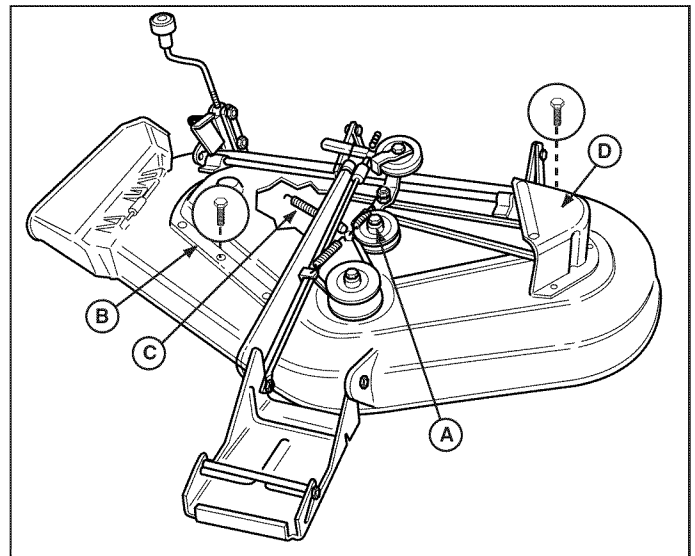

Figure 42. Mower Deck - 44" Mowers
4. See Figure 42. Remove three capscrews securing left-hand arbor cover (D).
7. See Figure 42. Reinstall the left-hand arbor cover (D). Reinstall the mower deck if removed.